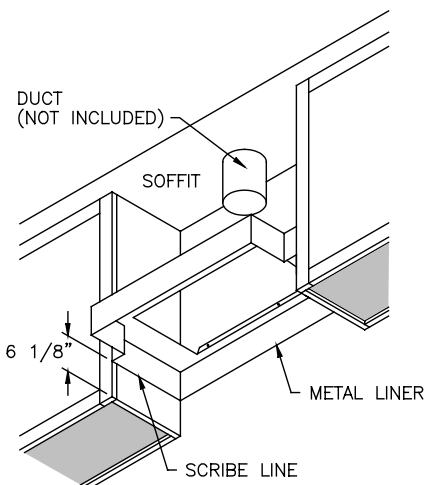

Figure 3
B. Installation: Metal Liner – T-Shaped, Figure 3
2. Raise Metal Liner so that bottom edge of liner is level with scribed lines. Use four (4) #8 x 1/2" screws (provided) to attach liner to adjacent cabinets through pre-drilled holes in liner. (If metal liner is not flush to cabinet sidewalls, it may be necessary to use a filler piece to avoid bowing the liner.) Locate studs and place two #8 x 1 1/4" (supplied) through rear of liner.